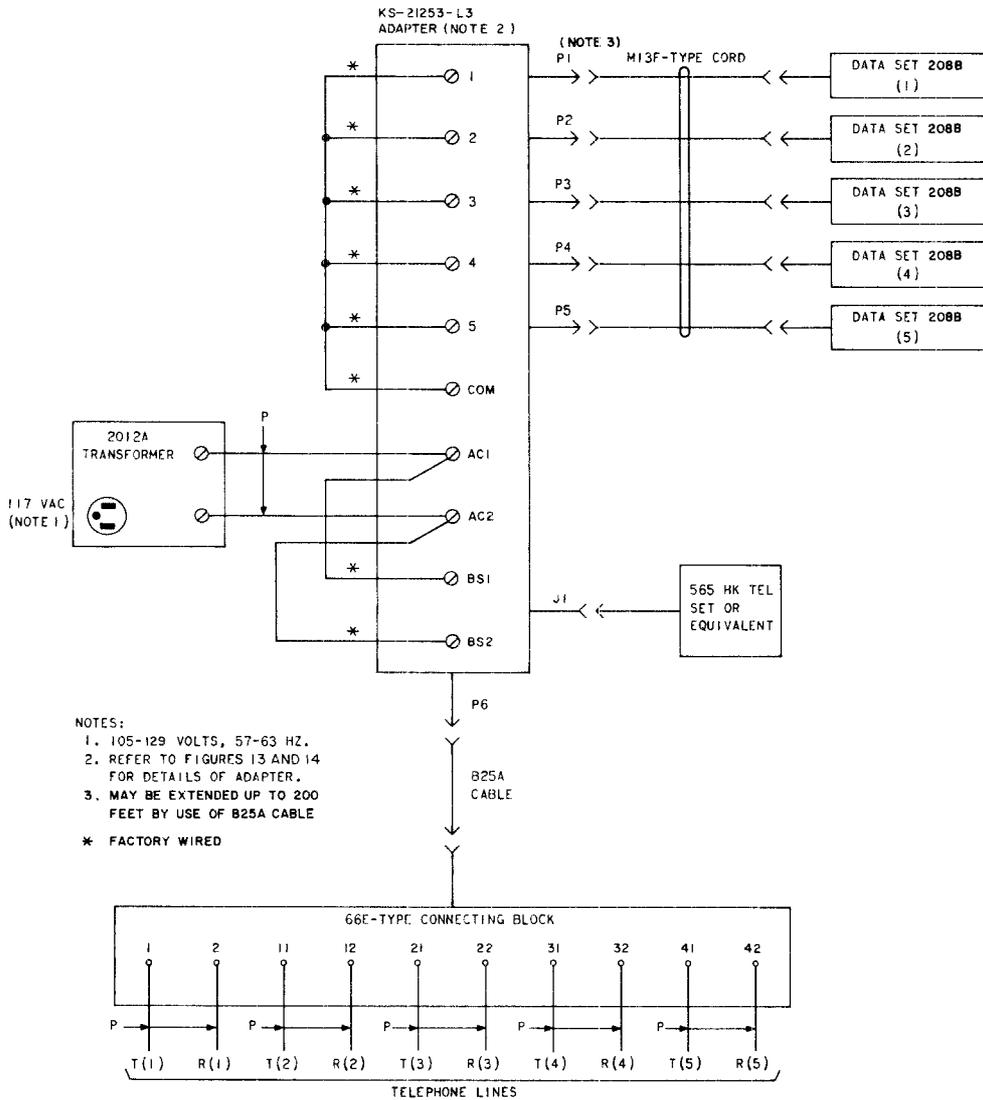

Fig. 5—Connection Diagram—Multiple Data Set 208B-Type W/O ACU Installation
2.05 For multiple data set installations not requiring an ACU (Fig. 5), the following apparatus must be ordered separately: